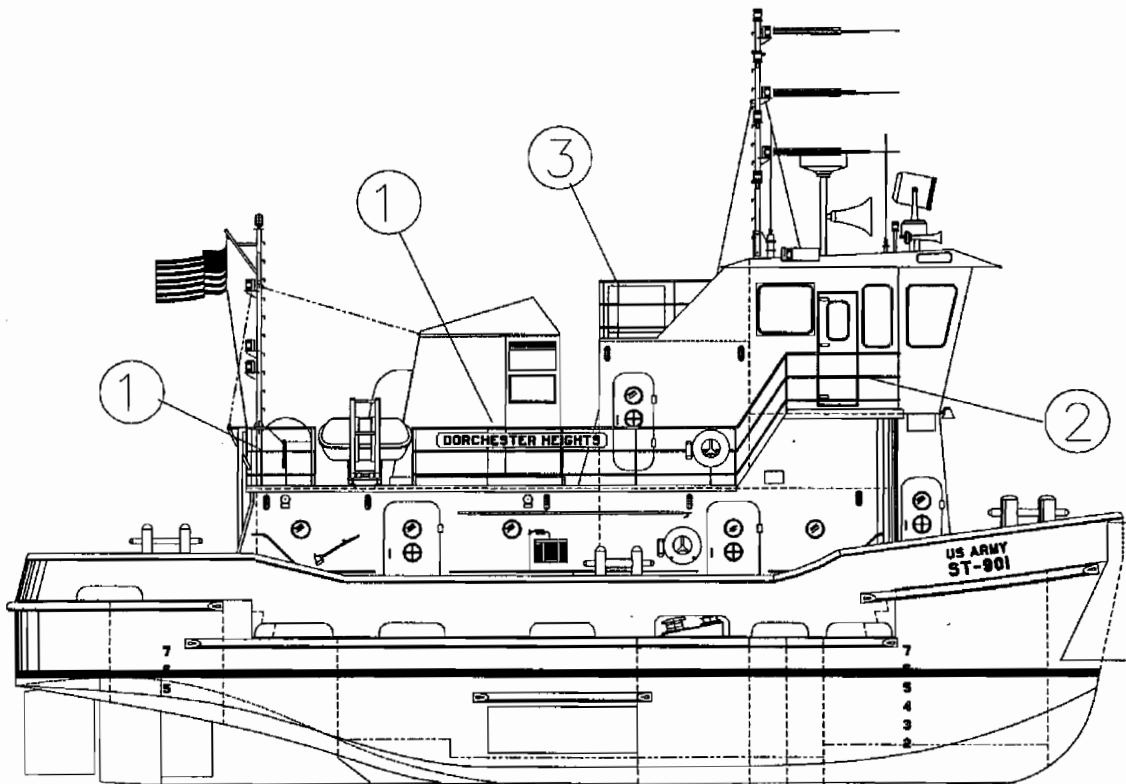

Figure 1-24. Handrails
(4) Handrails. Handrails are provided on the 01 Deck and Pilot House Deck. The handrails are of steel construction (Tubal Caine Industries Model A-120/A53B). See Figure 1-24 for a plan view of the handrails.